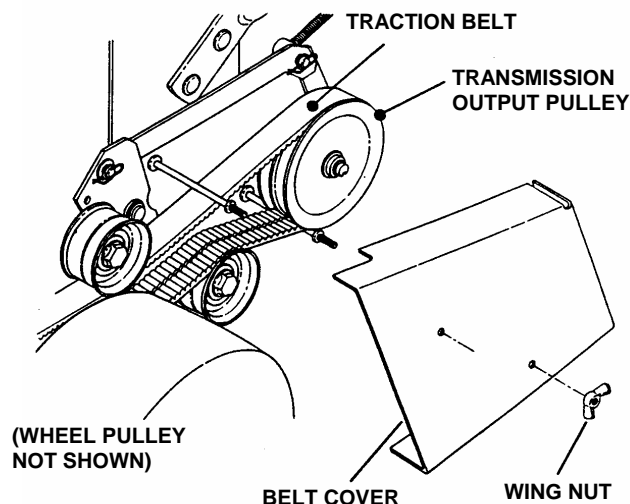

FIGURE 7.2
1. **STOP ENGINE!** Remove two wing-nuts retaining belt cover. Remove belt cover. See Figure 7.2.